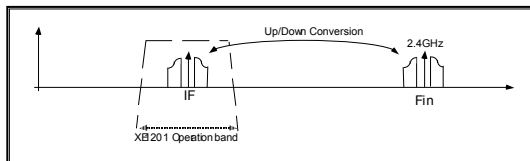

Figure 2: Principle of RF/IF converter
The principle is to shift the 2.4GHz (RF carrier frequency) to an intermediate frequency (IF) and vice-versa with IF value inside the XE1201A operation band (figure 2).